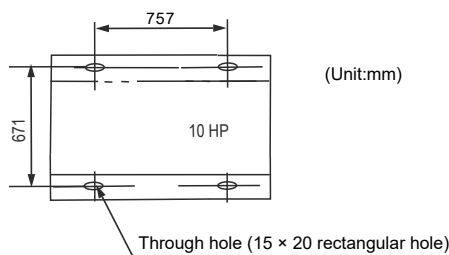

Fig. 4-5
- The distance of the foundation bolt is shown in Fig.4-5.